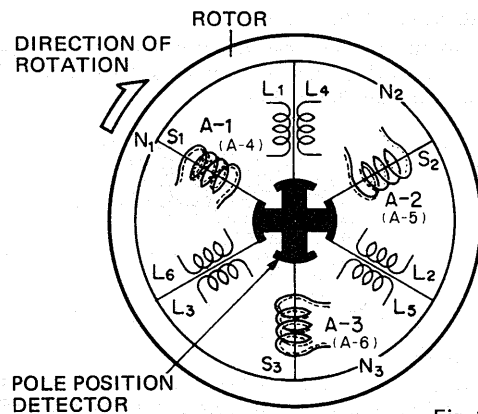

Fig. 1
3. Q109 in turn conducts and causes current to flow in the associated drive coil (A-1). The rotor moves in the direction shown by arrow in Fig. 1. The magnetic pole affixed to the rotor induces a voltage proportional to rotor movement, in the sensing coil (A-4).
Fig. 1 shows a simplified view of the drive and sense coils. With power applied and coupling between L1 and L4 high, Q109 causes current to flow through A-1. As a result, the rotor end of coil A-1 becomes a south pole (S1) and attracts N1. The rotor moves in the direction shown by arrow. Coupling factor between L2 and L5 increases and operation of Q110 causes current to flow in coil A-2. Pole S2 attracts pole N2 and rotor rotation continues. In the same manner, S3 attracts Pole N3. Continuation of this process causes the rotor to turn on a steady basis.